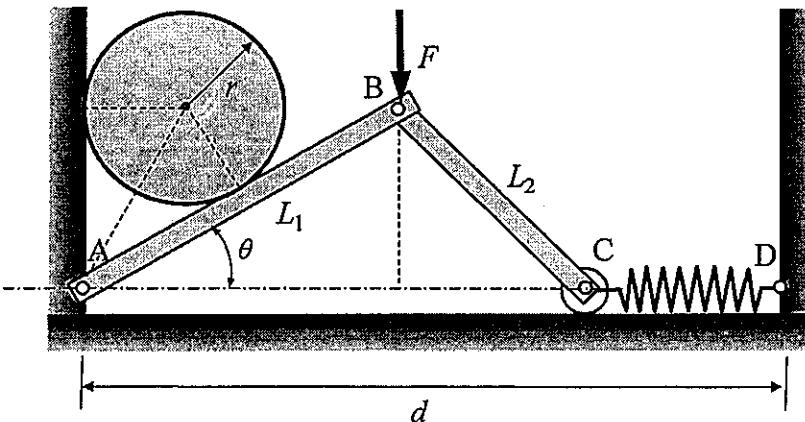

Figure 1
1. This paper contains **FOUR (4)** questions and comprises **SEVEN (7)** pages.
- 1(a) Figure 1 shows the equilibrium configuration of a system where a cylinder of mass M and radius r is carried by a pin-jointed structure consisting of two thin rigid weightless bars AB and BC, and a spring CD of stiffness k . The bars AB and BC are of lengths L_1 and L_2 , respectively. In the configuration shown, the spring is compressed by the combined action of the weight of the cylinder and the force F applied at B. Assume the spring does not buckle. The free length of the spring (i.e., the initial length of the spring before it is compressed) is l_0 . Assume that all the members in the structure except the spring are rigid. Ignore the effect of friction at joints and contacting surfaces.